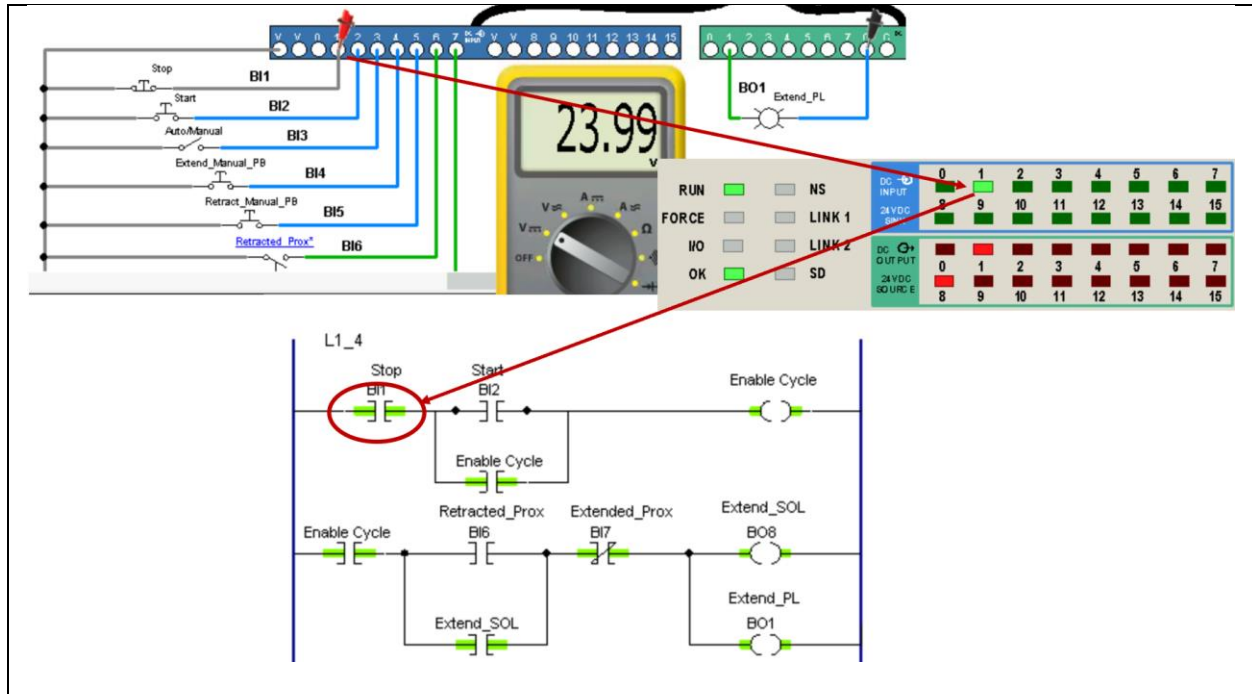

Figure 6. Signal flow from an input signal.
***Output Status Indicators (lights):** Are typically turned on by the output coil in the PLC program that has the same address as the indicator. This is shown in Figure 6. Notice that the output coil that is addressed as BO8 is highlighted (which means it is on), thus the output light “8” is on, and the voltage at output terminal “8” is approximately 24Vdc.*
Figure 6 shows the signal flow of an input signal coming into the PLC. The Stop pushbutton is a normally-closed pushbutton, which sends 24Vdc to input terminal “1”, which is addressed BI1